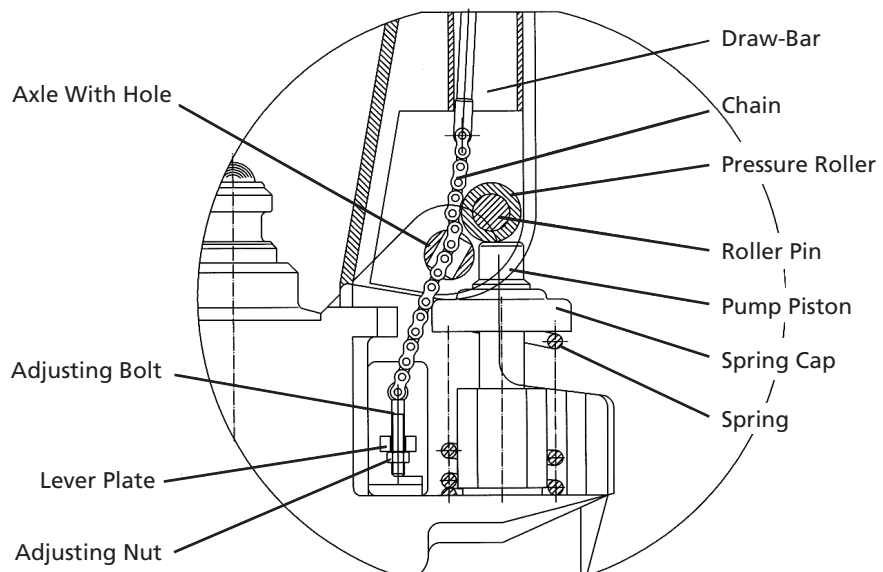

Figure 3
3. Set control handle in "LOWER" position then pass the adjusting nut, adjusting bolt and chain through the hole of the axle (See Figure 3).